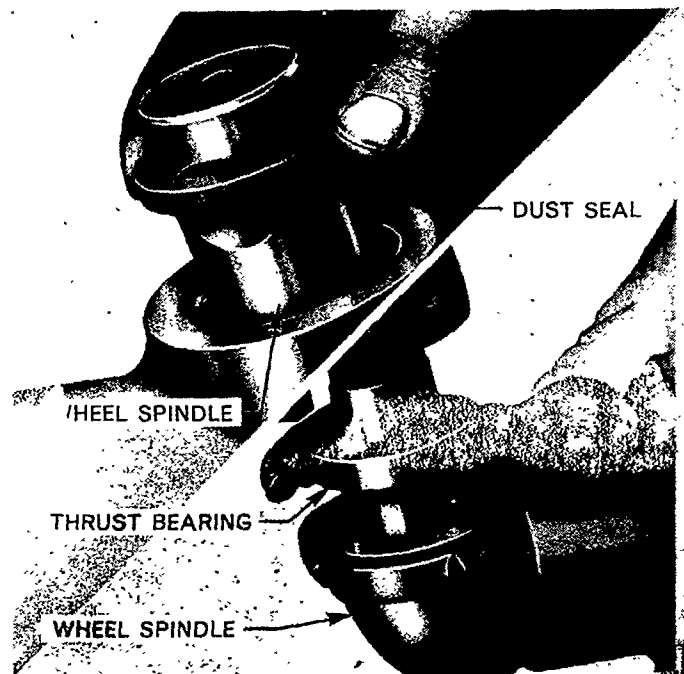

Figure 8
1. Pack the wheel spindle thrust bearing with grease and install on the wheel spindle. Make sure that the shroud is to the top, this is indicated on the bearing by the manufacturer's reference stamped on this face and in some instances the word 'Top', Figure 8.
3. Install a new wheel spindle dust seal with the groove in the periphery of the seal nearest the base, Figure 8.